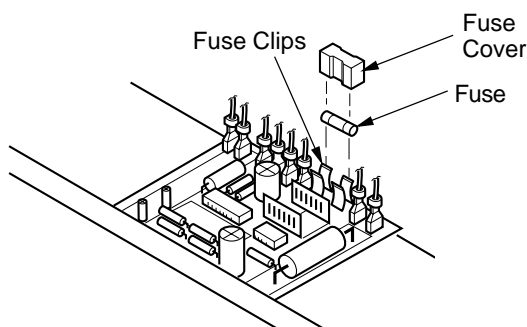

**Figure 19 - Sanding Rotor**
14. Place fine grade sandpaper (600 grit) on flat surface. Sand rotor lightly in “figure 8” motion four times (see Figure 19).